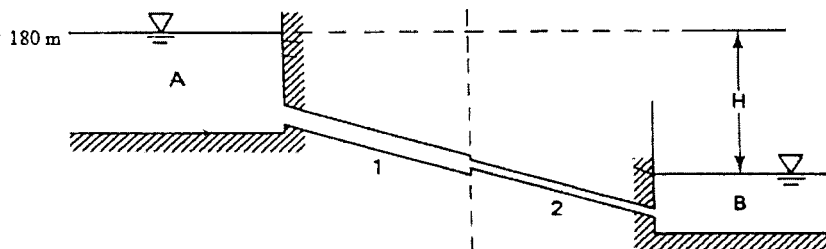

Figure 4 (b) / Rajah 4 (b)
- b) Figure 4(b) depicts two different pipes which are connected in series with the given diameter of pipe 1 = 0.6 m, while the diameter of pipe 2 is 2 times smaller than pipe 1. The length of both pipes are 200 m and 150 m respectively. The level of water for tank A is 180 m and the rate of water flows in pipeline to tank B is $0.5 \text{ m}^3/\text{s}$. Consider that the entrance and exit of the pipe are sharp and both pipes have different roughness surfaces of $f_1 = 0.017$ and $f_2 = 0.018$. List all the head losses with the formula that can possibly occur in the system then, write down the energy equation of the system.
- c) Based on figure 4(b), determine the level of water for Tank B, if the coefficient of contraction, C_c is given as 0.27.
- d) Consider a similar system as in Figure 4(b) with no head losses occurred except for the situation of changes in pipe diameter for pipe 1 and 2 and the velocity of pipe 1 is 4 times of pipe 2. The Diameter of pipe 1 is 240 mm and for pipe 2 is 480 mm. Calculate the velocity in pipe 2.